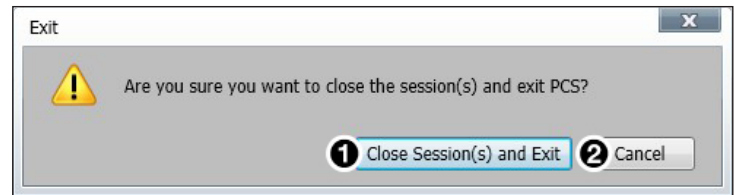

Figure 34. Exit Dialog Box
1. From the Software list, select **Exit**. If device tabs are open, the Exit dialog box opens (see figure 34).
2. Click the **Close Session(s) and Exit** button (❶) to disconnect the software from connected devices, close all offline device tabs, and close the software.